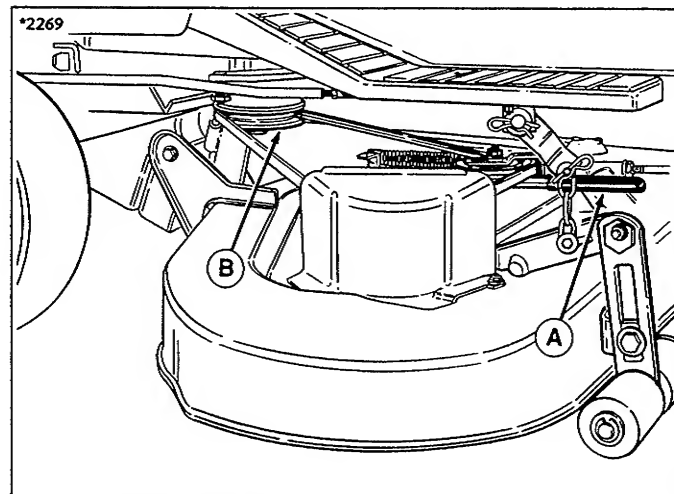

Figure 19. Mower Belt Removal
2. On left hand side of tractor, pull idler pulley arm (A, figure 19) to relieve belt tension.
3. With belt tension relieved, remove belt from electric clutch pulley (B). Removing belt relieves the tension on the front hitch assembly.